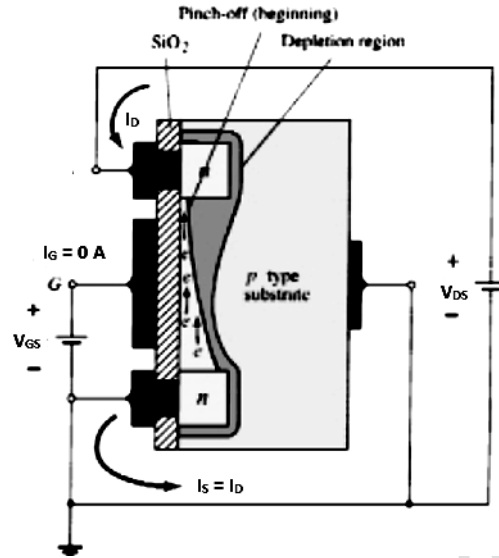

Fig 3
2. If  $V_{GS} - V_{DS} = V_T$ , the gate will become less and less positive with respect to drain. Thus, the number of electrons near to the drain terminal also reduces and channel will be become PINCHED OFF at the drain terminal. (Fig 3)